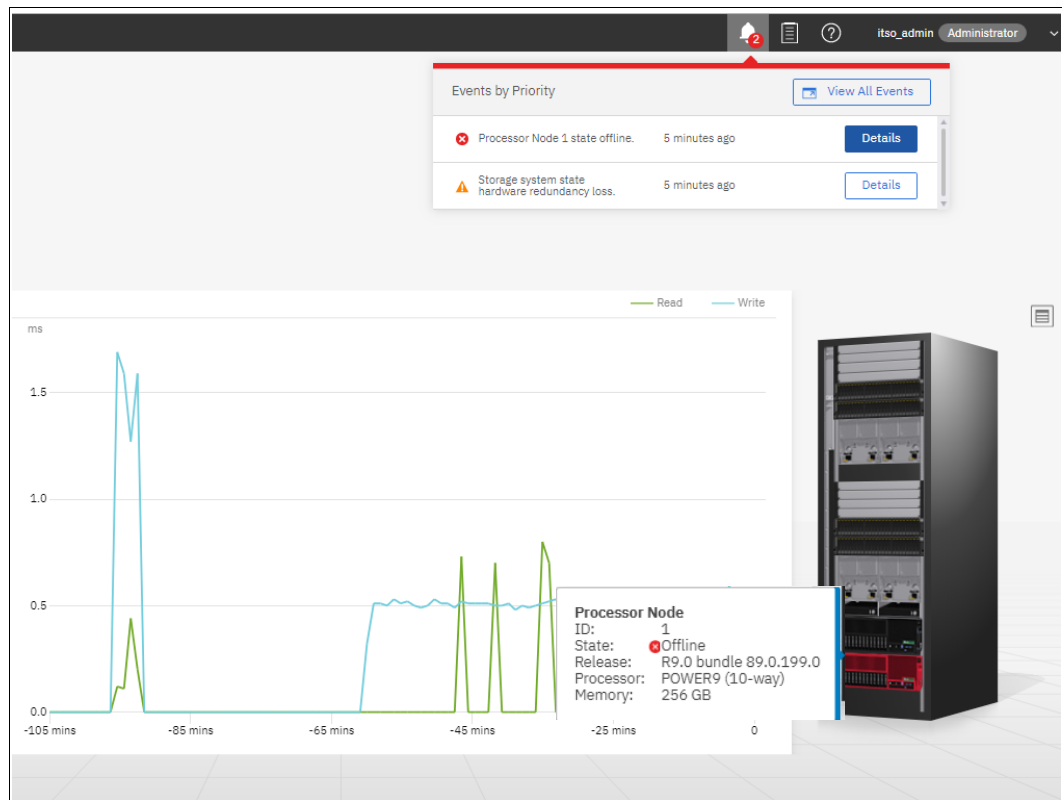

Figure 9-103 Hardware view with a failed processor node
- Failed processor node: Figure 9-103 shows the Hardware view with a failed processor node. Hovering your cursor over the node provides more information about this component.